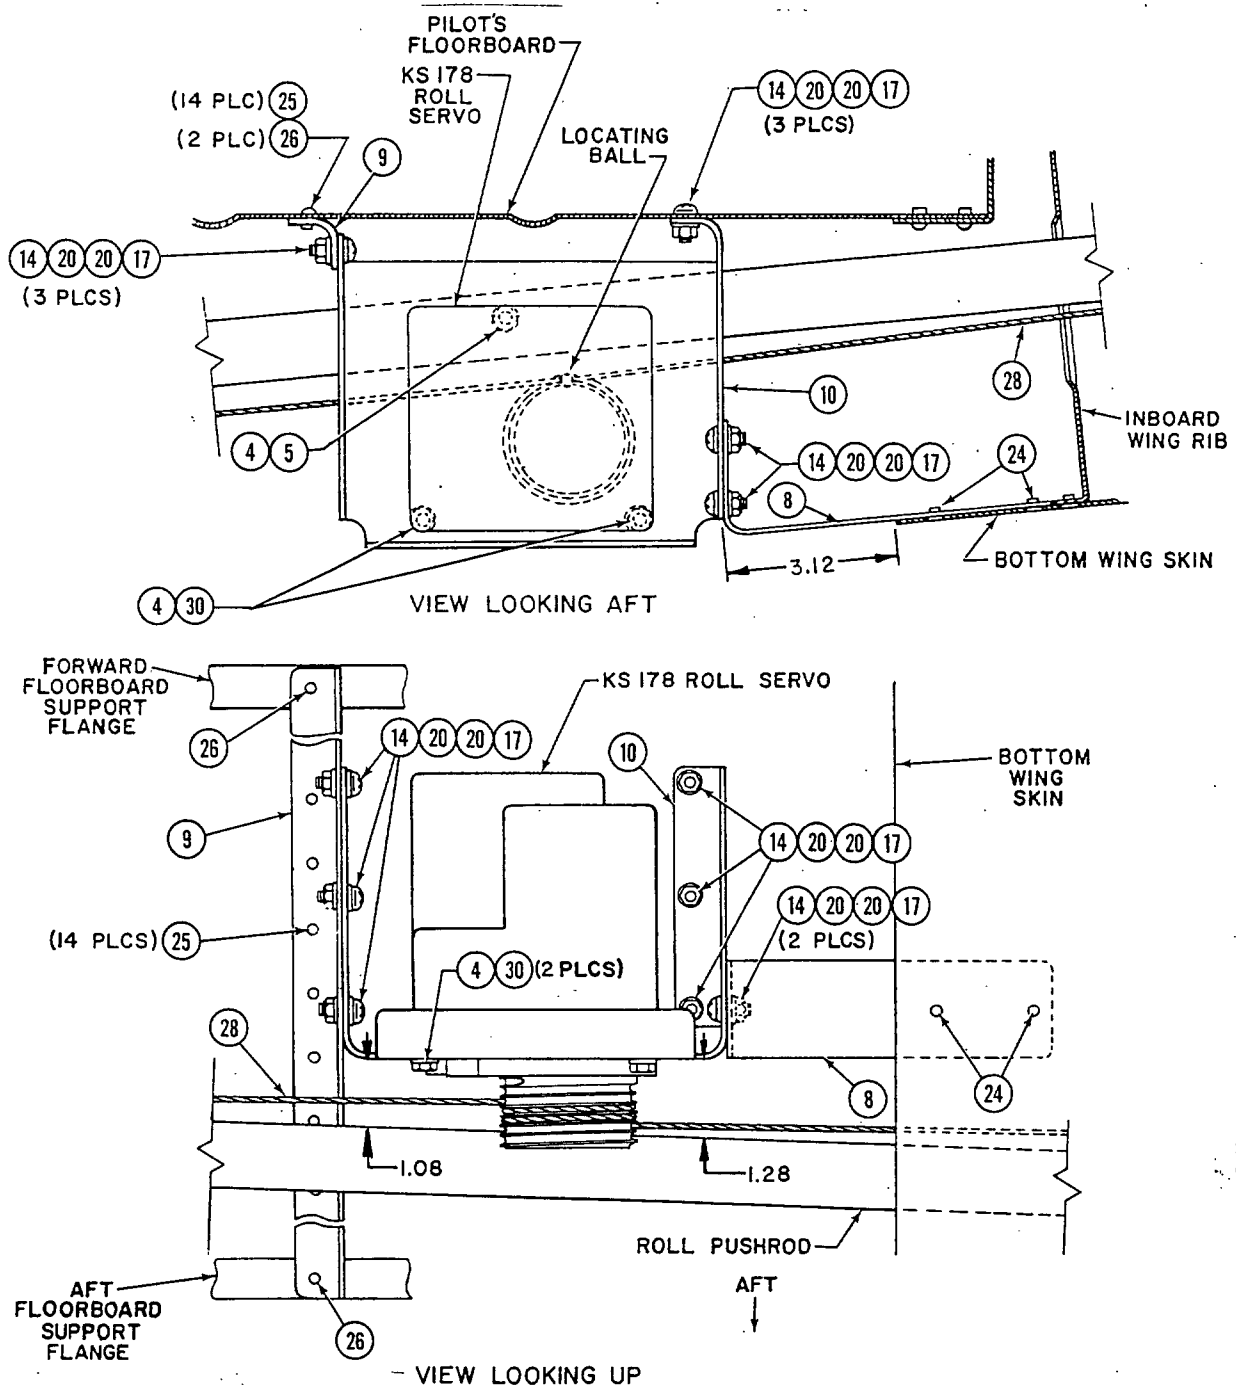

FIGURE 6-B ROLL SERVO INSTALLATION
- H. Match drill three .171 dia. holes through the vertical flange of the roll servo support and the inboard flange of the Roll Servo Hanger as shown in Figure 6-B. Fasten the Hanger to the Support with three Screws (089-6421-04) (Item 17), six Washers (089-8227-07) (Item 20) and three Nuts (089-2344-02) (Item 14).